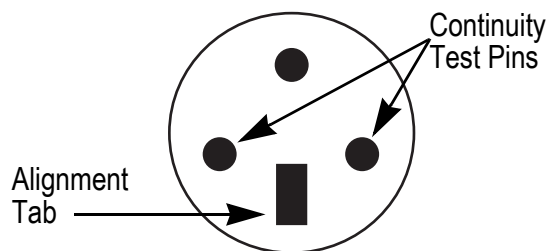

Figure 2.1-1. External Interlock Plug
2. Verify continuity between the two lower pins, on each side of alignment tab, of the external interlock plug. See Figure 2.1-1 below.